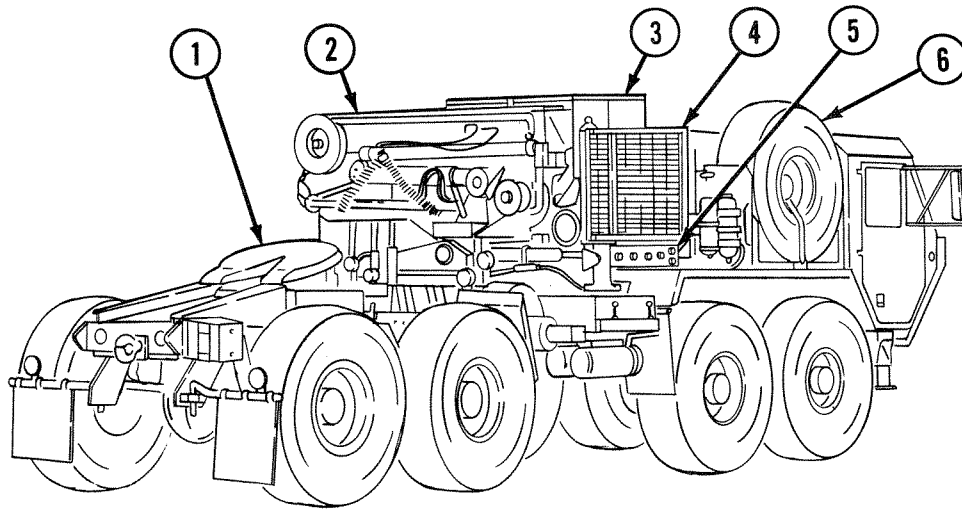

Figure 2-16. M983 Tractor Major Features
b. *M983 Tractor.* Figure 2-16 shows M983 tractor major features. For more information on the M983 tractor, see TM 9-2320-279-10.